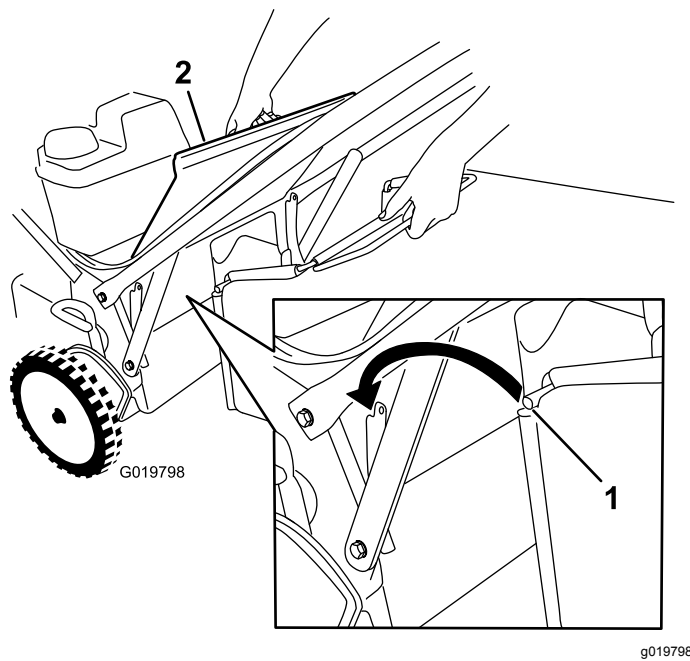

Figure 24
1. Raise and hold up the rear door (Figure 24).
3. Install the bag rod into the notches at the base of the handle, and rock the bag back and forth to ensure that the rod is seated at the bottom of both notches; refer to Figure 24.